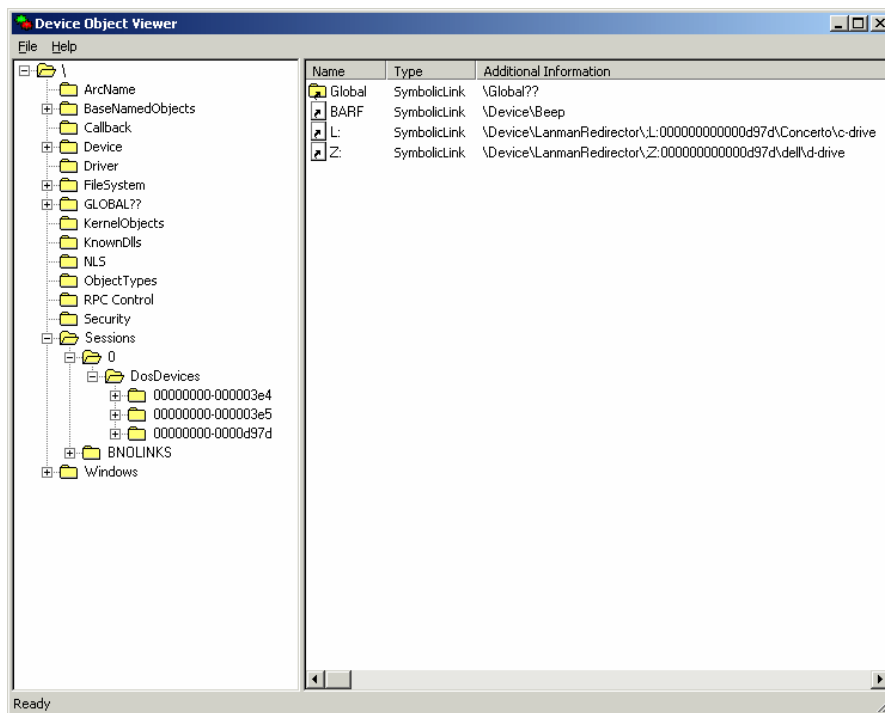

Figure 2-18. Symbolic link created by `DefineDosDevice`
The name \?? has a special meaning in Windows XP. Confronted with this name, the Object Manager first searches a portion of the kernel namespace that is local to the current user session. To see how this works, establish two or more sessions and start DEVVIEW in one of them. Expand the \Sessions folder, and you will eventually see folders for each user. Figure 2-18, which appears later in this chapter, provides an example. If the local search isn't successful, the Object Manager then searches the \GLOBAL?? folder.
- Kernel-mode code initially sees the name \\?\C:\MYFILE.CPP. The Object Manager special-cases the “??” name to mean the DosDevices directory for the current session. (In Figure 2-18, this directory is one of the subdirectories of \Sessions\0\DosDevices.)
A user-mode program can create a symbolic link in the local (session) namespace by calling `DefineDosDevice`, as in this example (see Figure 2-18):